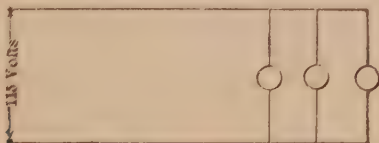

FIG. 45.
**Problem 24.** The three lamps of Fig. 45 have the same resistance. The sum of the currents taken by the 3 lamps when on the 115-volt circuit is 1.5 amp. What is the resistance of each lamp?